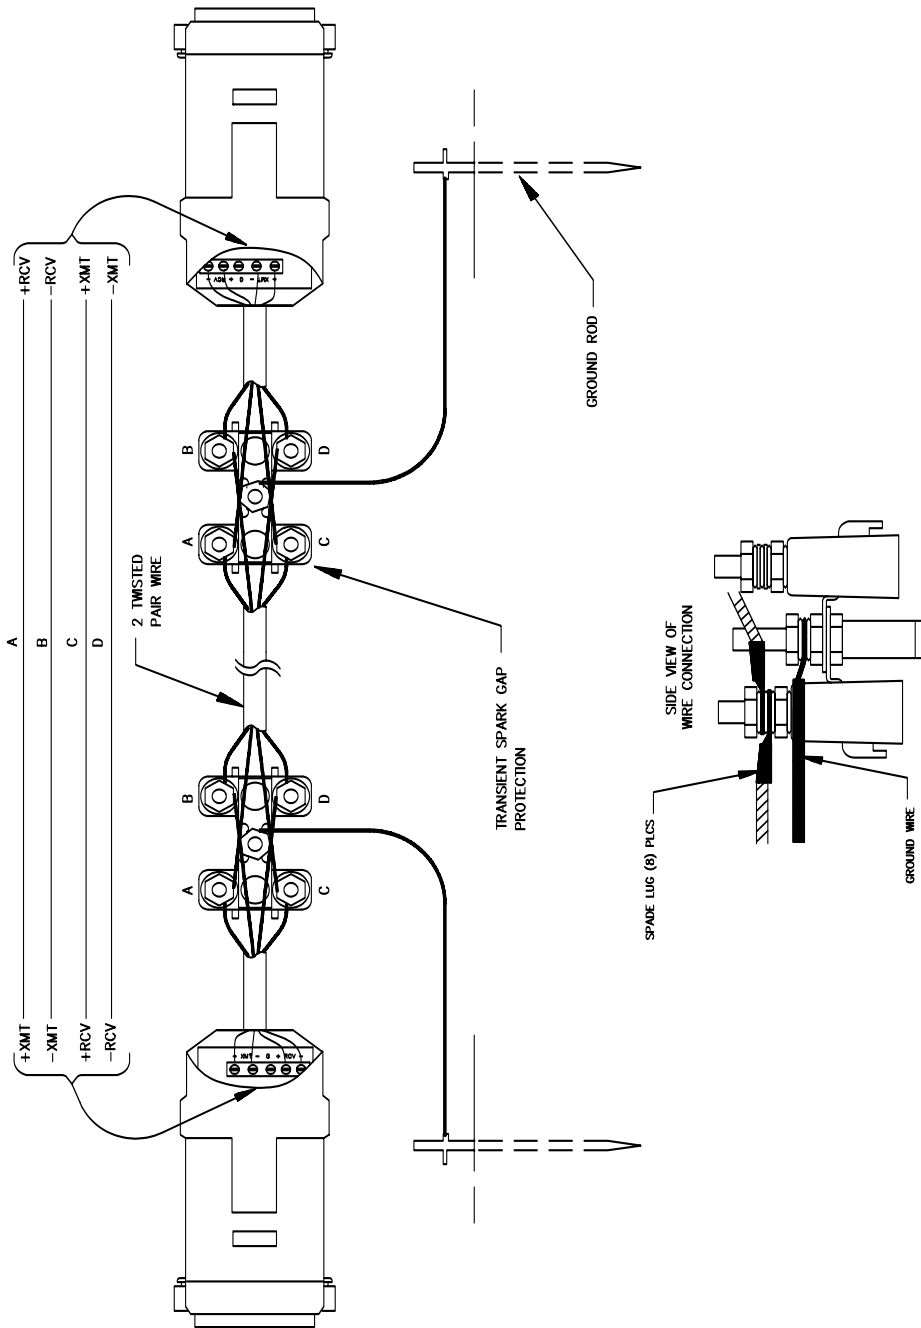

FIGURE 7. Installation of Spark Gap Protection
Figure 7 shows a typical setup of the RAD modems. Installation is as follows:
3. Wiring connections are made as shown in Figure 7. Note wires labeled A and B are one twisted pair of the cable. Wires labeled C and D are the other twisted pair.
4. Transients induced on the communication line may damage any electronics connected at either end of the line. To decrease the chances for damage, spark gaps should be installed as shown in Figure 7. The transient protection shown may be purchased from Campbell Scientific (PN L6536-10 shown in Figure 7, PN L6536 includes a plastic case). Model SRM-C is a cable assembly that simplifies the connections between the RAD modems and the transient protection. Spark gap wiring is straight through such that pin to pin continuity exists between the two